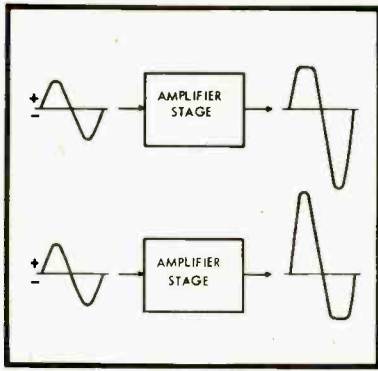

Fig. 8-3. Two types of vacuum-tube distortion. (A) Distortion due to saturation (B) Distortion due to cut-off.
When the signal on the grid changes in the positive direction the current through the tube and through the associated output circuit is increased. The more positive the instantaneous value of the input signal the greater the current. Now there is obviously a limit to the amount that the current can increase. After the current has been driven to this limit (*saturation*), no further increase of positive input voltage will increase the current flow. This condition is illustrated in (A) of Fig. 8-3, in which the input voltage covers too great a range, in its positive peak, for the current to follow accurately. Further, the picture is not in simple black-or-white, where the tube is either saturated or not. Before complete saturation is reached the changes in current flow begin to lag the changes in voltage, so that distortion of a less graphically obvious nature is introduced.
amount that the current flow can be reduced to is zero (*cut-off*), and if the input signal continues to go more negative after cut-off has been reached, the value of current flow in the tube is helpless to follow. This is illustrated in (B) of Fig. 8-3. Here, again, distortion of a less drastic nature begins to introduce itself before the actual cut-off point is reached.